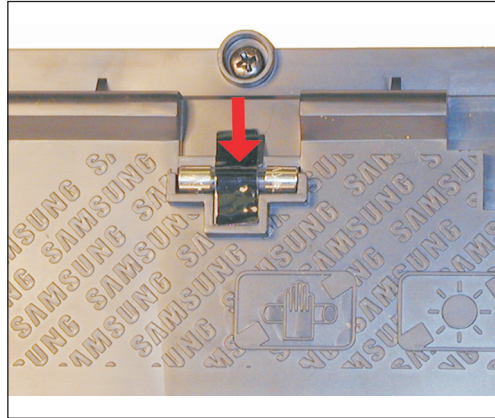

Figure 30
26) Replace the fuse on the top of the cartridge with a new 63mA fuse. The fuse should be taped in place to it does not fall off. See Figure 30